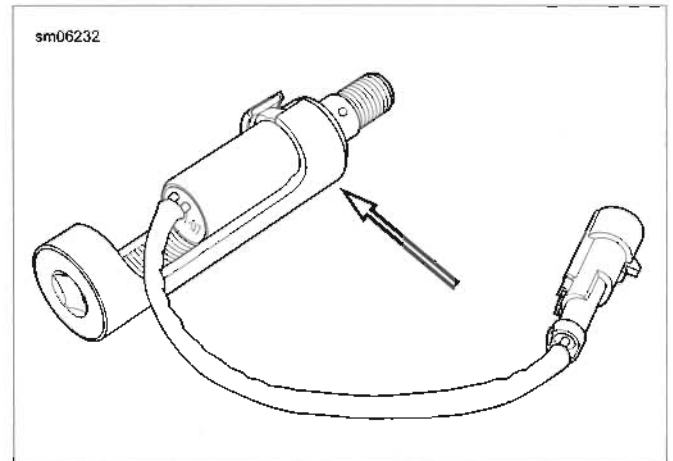

Figure 7-74. ACR Solenoid Socket and ACR
3. See Figure 7-74. Use ACR SOLENOID SOCKET (Part No. HD-48498-A) to remove the ACR from the cylinder head.
5. See Figure 7-74. Using ACR SOLENOID SOCKET (Part No. HD-48498-A), tighten to 13-17 ft-lbs (17.6-23.0 Nm).